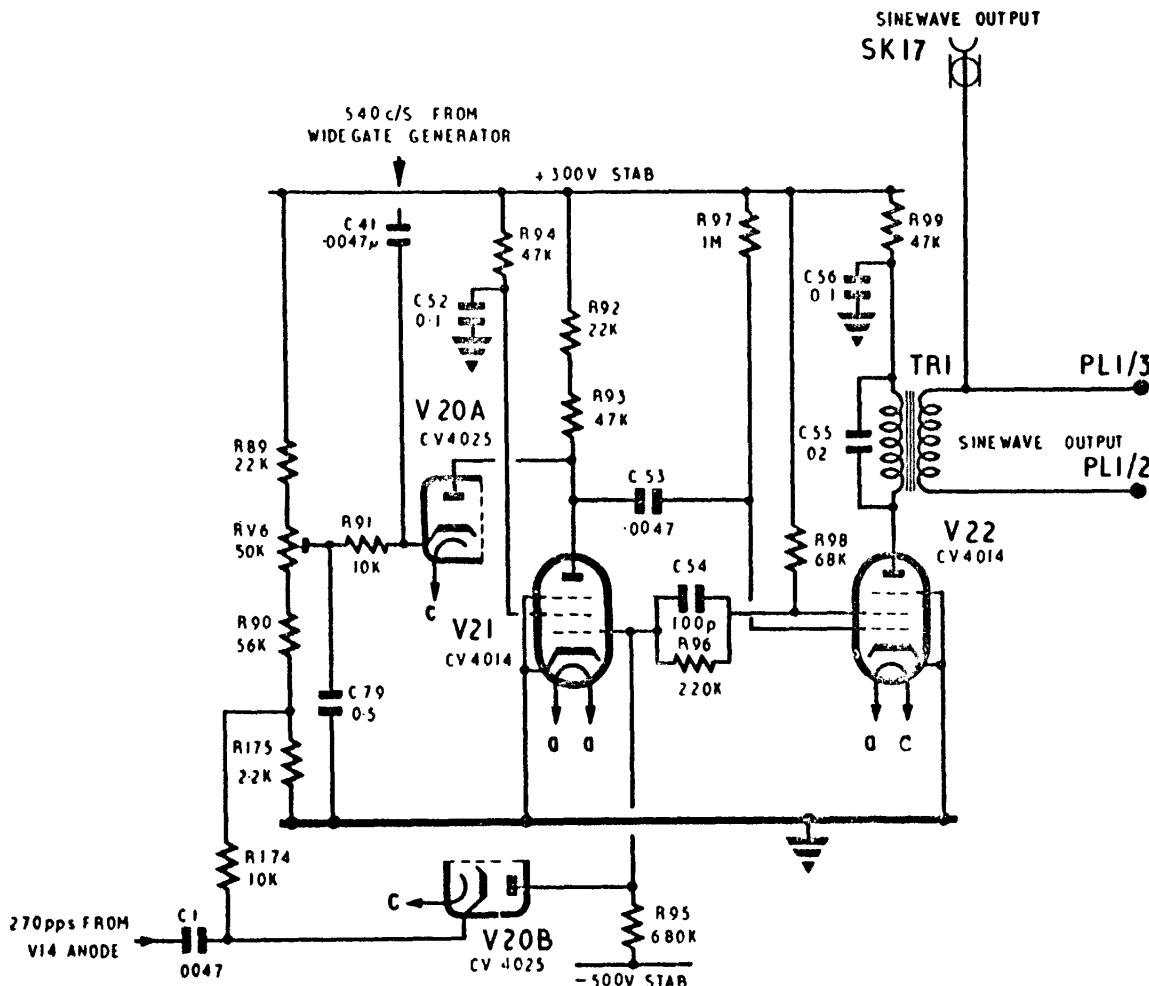

Fig. 8. Sine wave shaper circuit
29. V21 and V22 are in a flip-flop circuit (fig. 8)